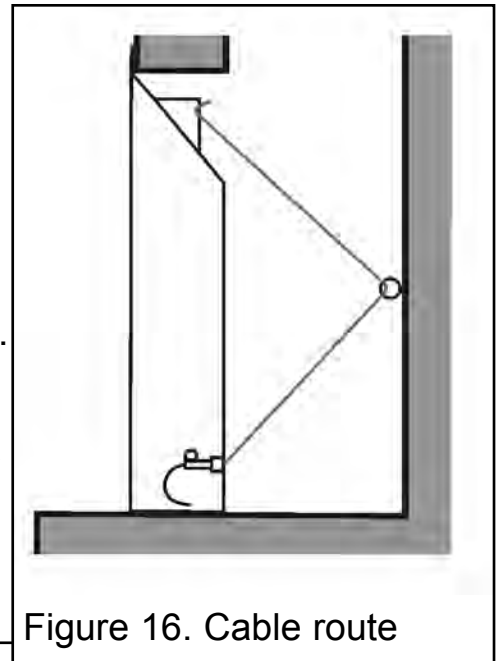

Figure 16. Cable route
6. Thread the cables through the eyebolts in the rear wall. Return the cables through the holes near the bottom corners of the convection box back panel (See figure 16).